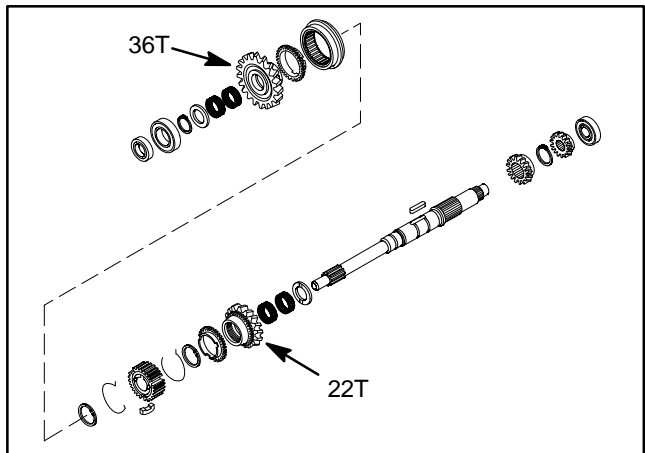

Figure 59
- C. Inspect I.D. of synchro gears on main shaft for excessive wear or scoring (Fig. 59). If synchro gear has the following I.D., replace the synchro gear: